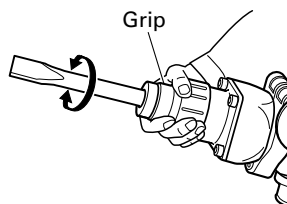

Fig. 9
- (c) Turn the grip as illustrated in Fig. 9 and fix the working position of the tool.
- (d) Switch the selector lever to “hammering” according to the procedures mentioned in the above item (1) and secure the position of the tool.